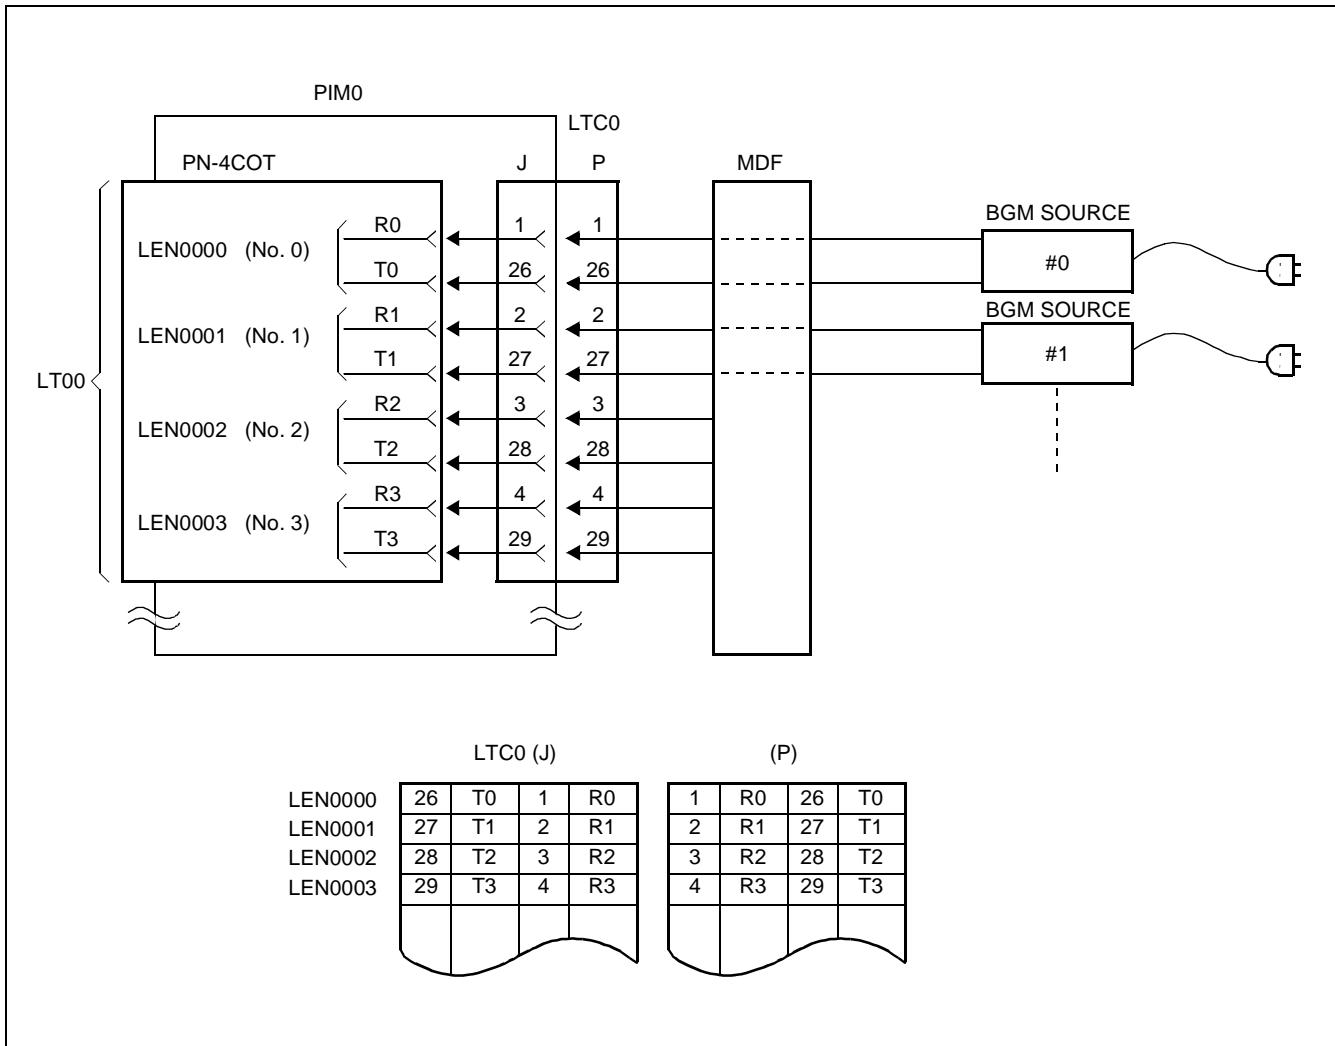

**Figure 006-28** Connecting a Tone Source Supplied with D.C.
- If a D.C. voltage is supplied with the tone from the external tone source equipment, a transformer or coupling capacitor should be used as shown in Figure 006-28.